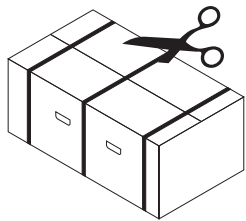

Fig. 30
a) Remove the outer packaging and literature, and stand the boiler and inner packaging upright. Remove the base tray (Figs. 30, 31 & 32).
Method 1 - (Fig. 30 to 33)